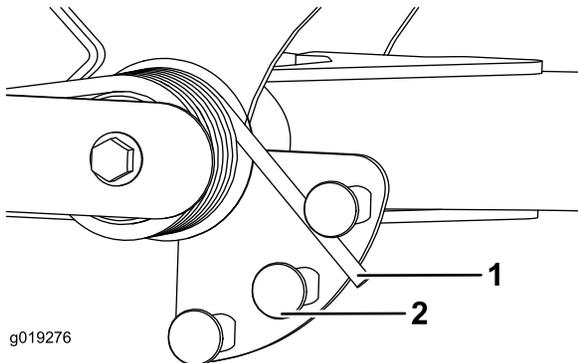

Figure 65
2. Insert a tube or similar object onto the long spring end and pivot it around the spring actuator to the desired position (Figure 65).